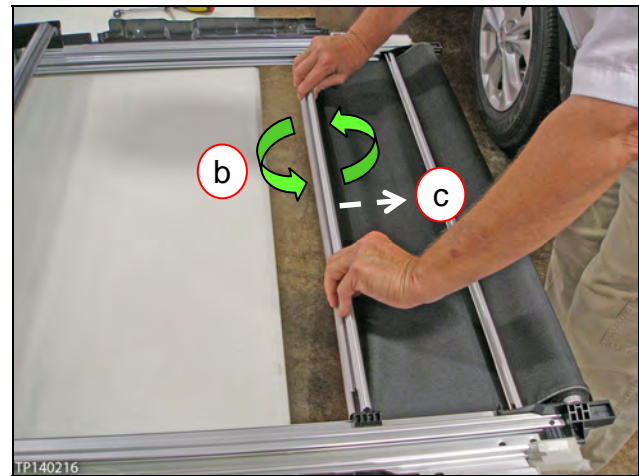

Figure 3
- b. Rotate the front bar 90° (see Figure 3).
- c. Pull back the front bar to remove the ends from each sunshade coupling (see Figure 3).